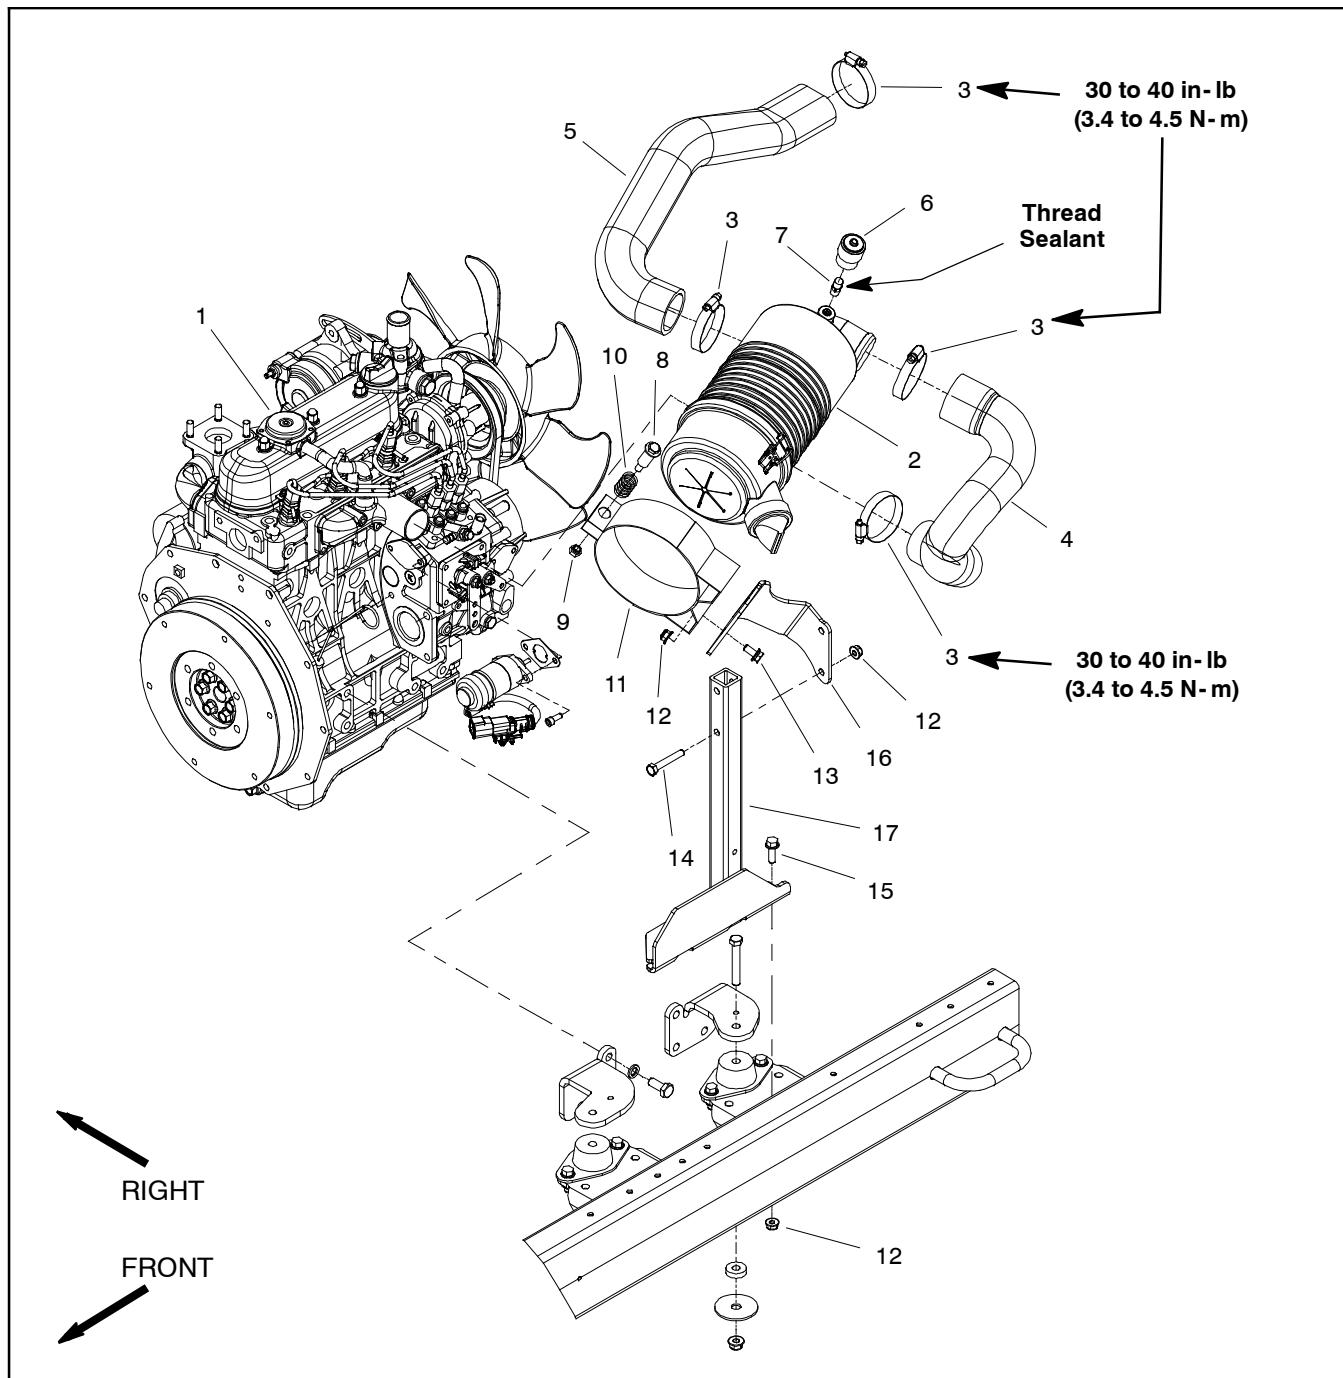
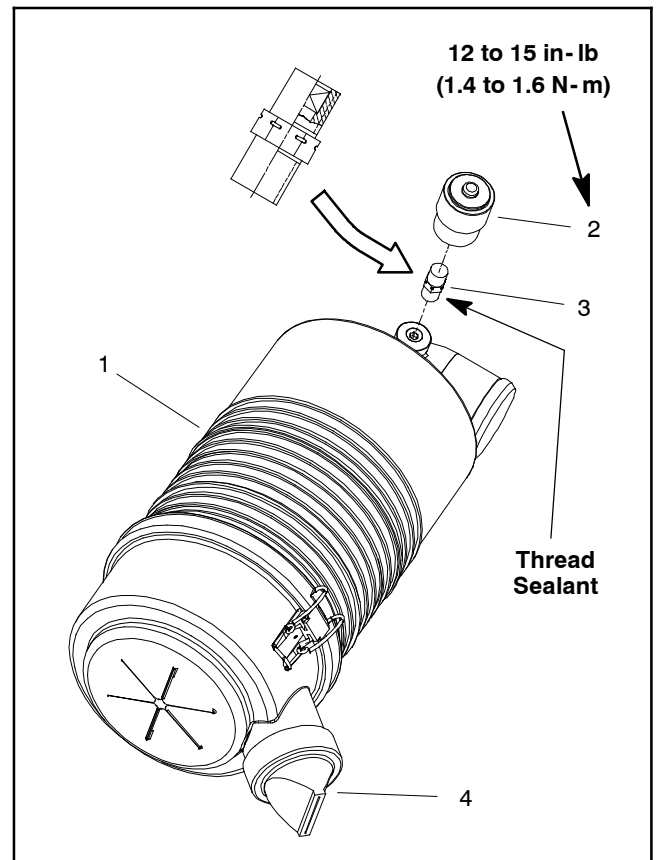

Figure 2
Figure 3
Removal (Fig. 2)
2. Remove air cleaner components as needed using Figure 2 as a guide.
Installation (Fig. 2)
1. Assemble air cleaner system using Figure 2 as a guide.
A. If service indicator (item 6 in Fig. 2) and adapter (item 7 in Fig. 2) were removed from air cleaner housing, apply thread sealant to adapter threads before installing adapter and indicator to housing. Install adapter so that grooves in adapter hex and adapter filter element are installed toward service indicator (shown in Fig. 3). Torque indicator from **12 to 15 in-lb (1.4 to 1.6 N-m)**.